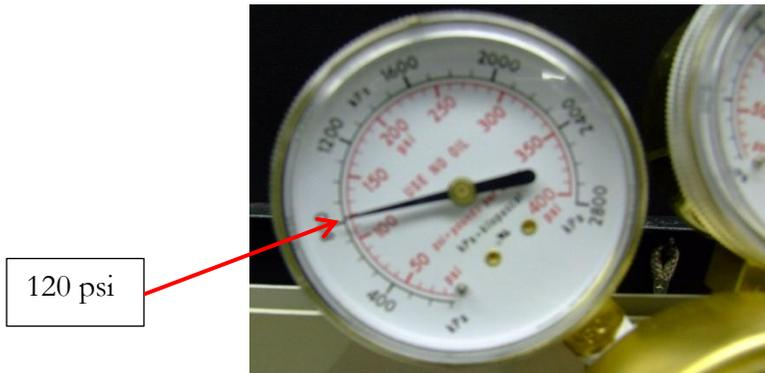

Figure 8
- Open the valve at the gauge by turning in a clockwise direction until the gauge reads 120 psi (the red-numbered section, see Figure 8)